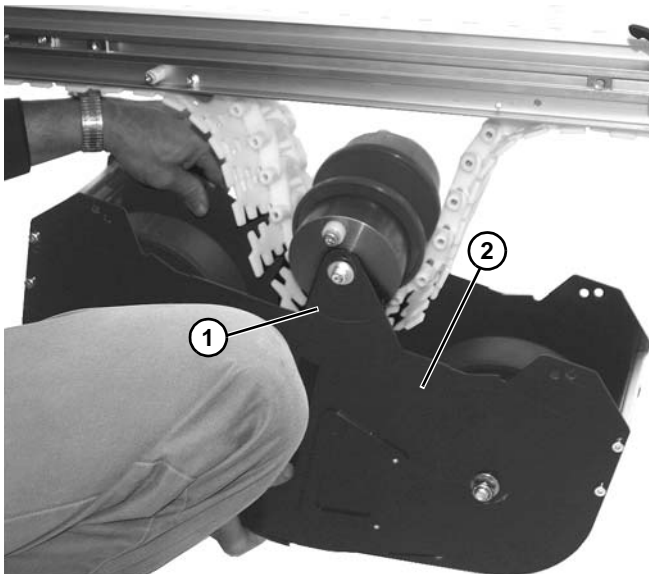

Figure 63
3. Raise weighted take up box assembly, with plate (Figure 63, item 1) on idler pulley assembly on outside of outer plate (Figure 63, item 2) of weighted take up assembly.